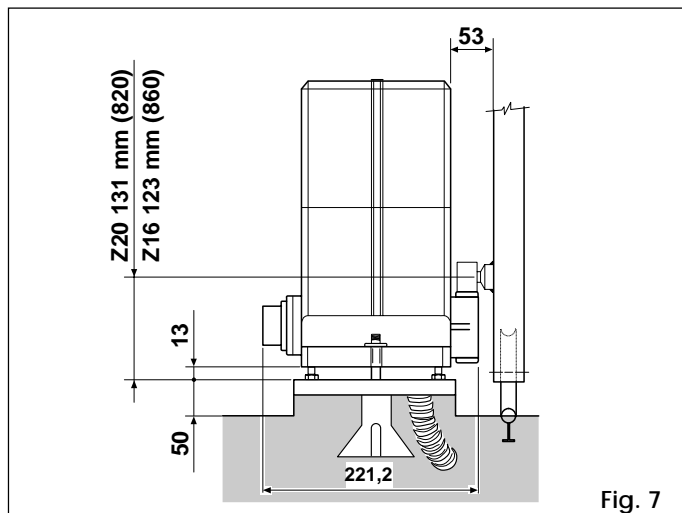

Fig. 7
N.B.: It is advisable to install the base plate on a concrete base raised about 50 mm from the ground (Fig. 7).
- 3) Adjust the height of the feet and the distance from the gate as shown in Fig. 7.